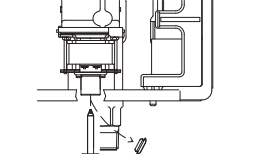

Fig. 4
- Remove the rubber access plug and adjust the regulator screw on the modulating valve (Fig. 4) as required in Table 1. Replace the rubber access plug.